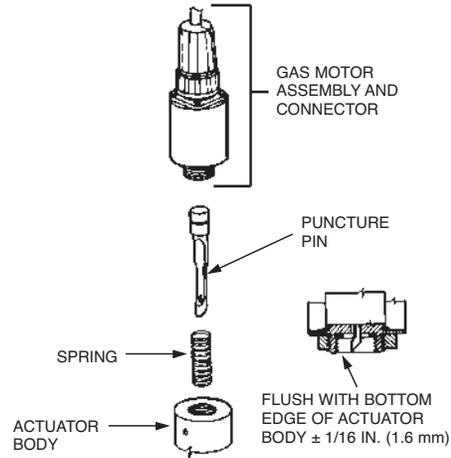

FIGURE 42
6. Unscrew threaded connector on top of gas motor actuator. Replace gas motor and clean and lubricate actuator by completing the following steps: See Figure 42.